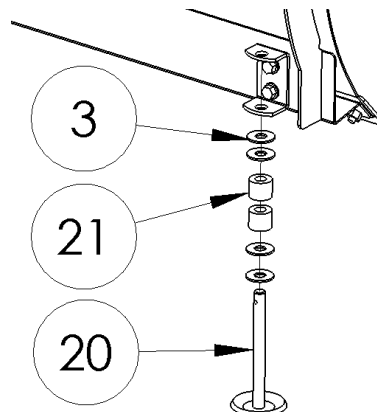

Figure 13
- 11) Install your Skid Feet (#20) using the 5/8" Flat Washers (#3) and the Rubber Bushings (#21) included in your kit (**Figure 13**). The height of the Skid Feet can be adjusted by adjusting the location of the skid feet and washers from the bottom of the bracket to the top. Secure the Skid Feet using the included snap ring (#24). (Not Shown). The cotter pin goes through the hole located on the blade support bar and should be bent to keep it from being removed.